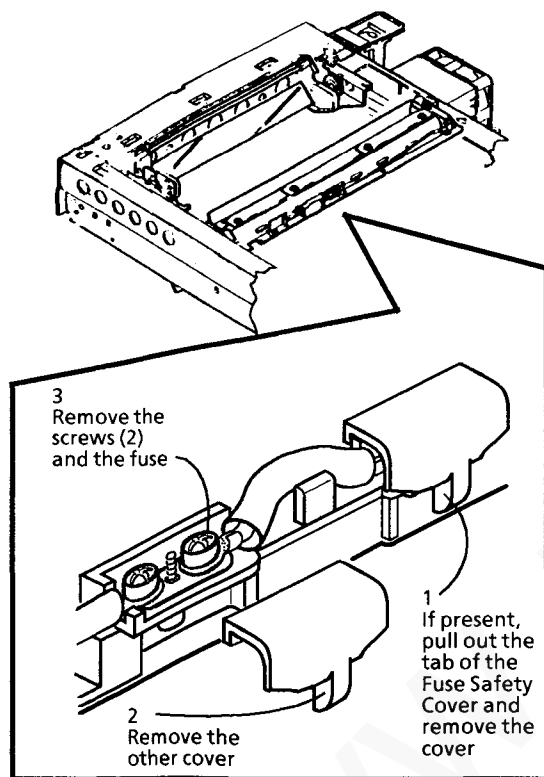

Figure 1. Removing the Exposure Lamp Overtemperature Fuse
3. Remove the Exposure Lamp Overtemperature Fuse (Figure 1).